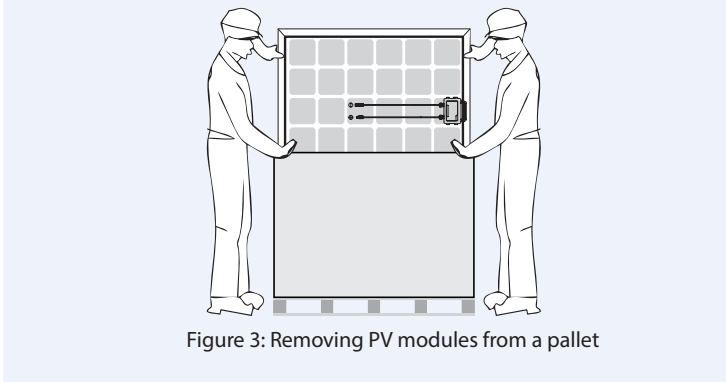

Figure 3: Removing PV modules from a pallet
- For unpacking PV modules from the supplied packaging, first remove the pallet lid (after removing securing straps, if provided). Remove PV modules one at a time by sliding them up the channel in the package (see Fig. 3). You may need to secure the remaining PV modules in the pallet packaging to prevent them from falling over.